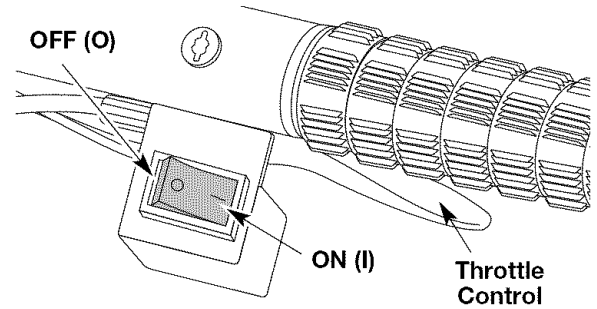
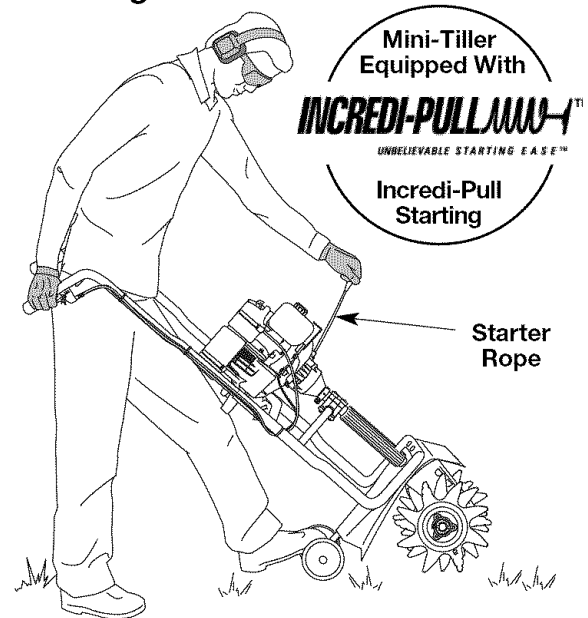

Fig. 7
Fig. 9
- Put the ignition switch in the **START (I)** position (Fig. 7).
- While squeezing the throttle control (Fig. 7), pull the starter rope out with a **controlled and steady motion** 1–5 times (Fig. 9).
- While squeezing the throttle control (Fig. 7), pull the starter rope with a **controlled and steady motion** to start the engine (Fig. 9).
- Once the engine is warmed up, place the choke lever in **Position 3** (Fig. 9). Release the throttle control to the idle position and begin operation.
IF... the engine hesitates, return choke lever to **Position 2** (Fig. 9) and continue warm up.